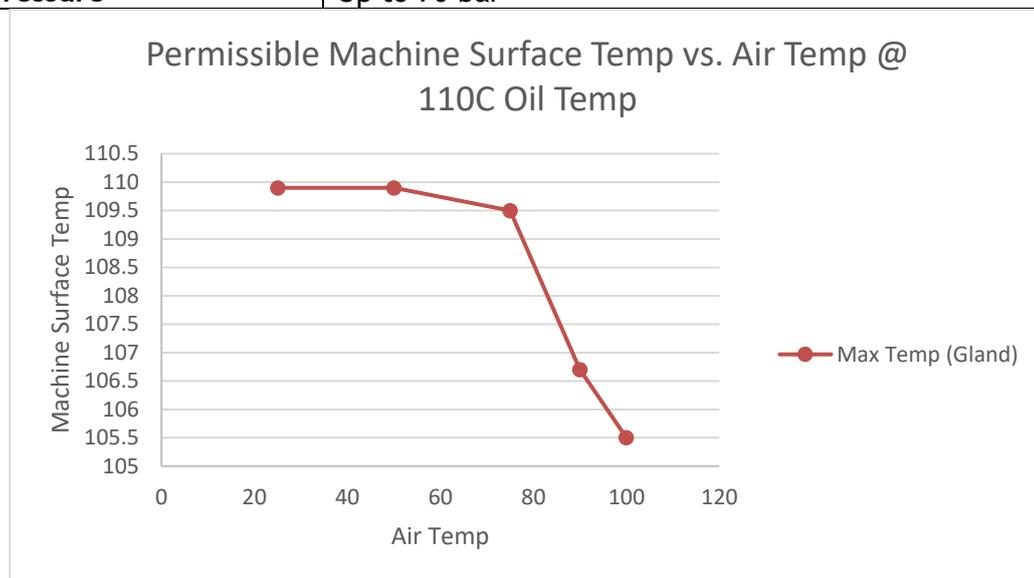

Figure 22 - Temperature Graph
- ❖ Wi-Fi - Connects the OQDe to any Wi-Fi enabled device (e.g. PC, Tablet, Mobile Device etc...) through Insight web page. The default Wi-Fi Hotspot IP address is “192.168.4.1”. This can also be accessed using the QR code on the label on the unit (Figure 22). The OQDe can also be connected to a local wireless network.